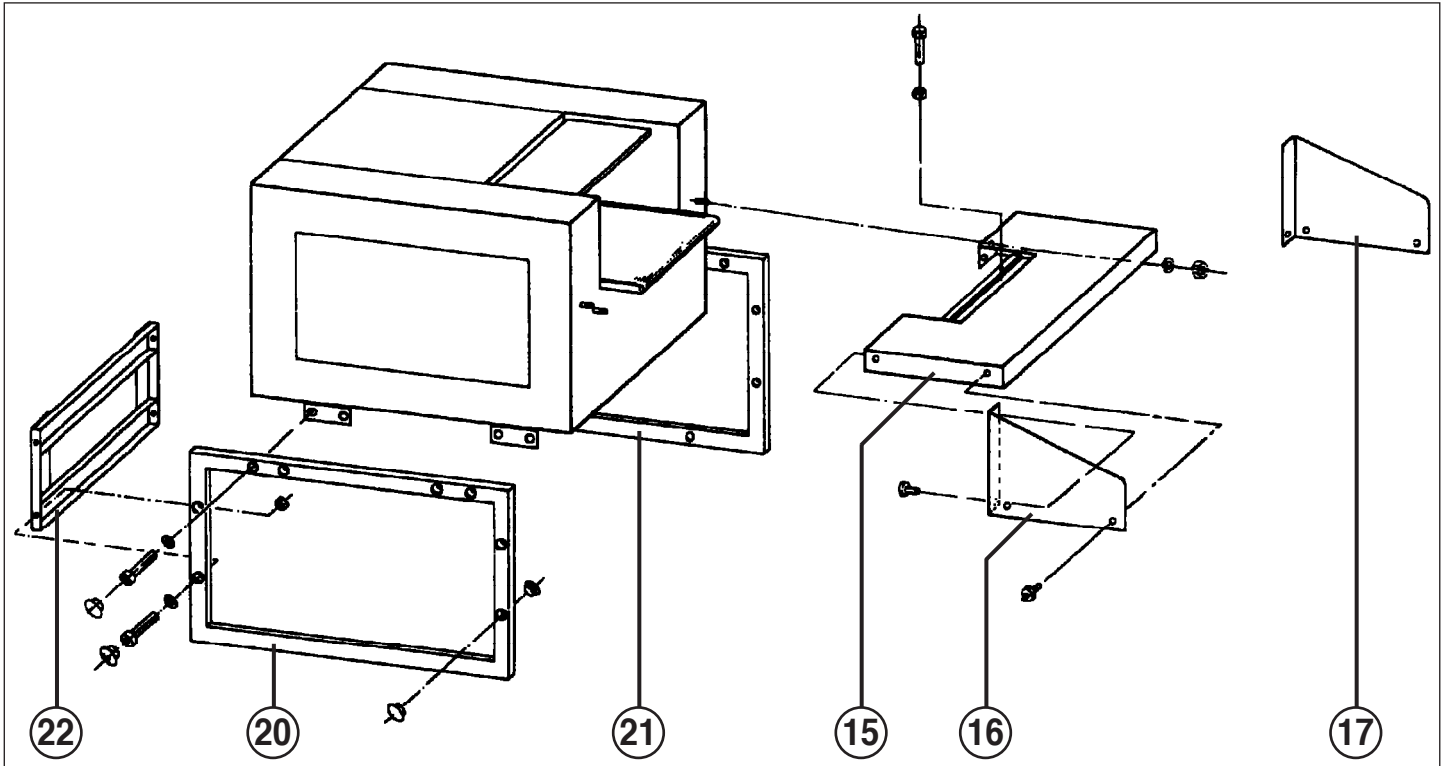

Fig. 1
- 15 = Feed table (fig. 1)
- 16 = Protective angle, left side (fig. 1)
- 17 = Protective angle, right side (fig. 1)
- 20 = Base frame, left side (fig. 1)
- 21 = Base frame, right side (fig. 1)
- 22 = Dividing panel (fig.1)
BASE FRAMES (Figs. 1 and 2):
INSTALLING THE FEED TABLE (15) (Fig. 1):
4. Guide the power cable for the emergency-stop rail (14) through the sleeve on the front side of the housing, through the cable gland on the bottom of the switch box, and on into the switch box. Then connect the blue wire to terminal 20 and the brown wire to terminal 19.
PROTECTIVE ANGLES (Fig. 1):